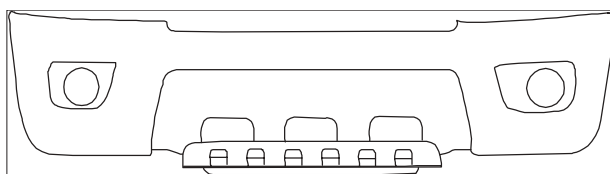

Fig. 3-2
-  (c) Move skid plate to create a 16 mm min. and 20 mm max. gap between the middle of the front edge of the skid plate and the bumper. Fig. 3-2.